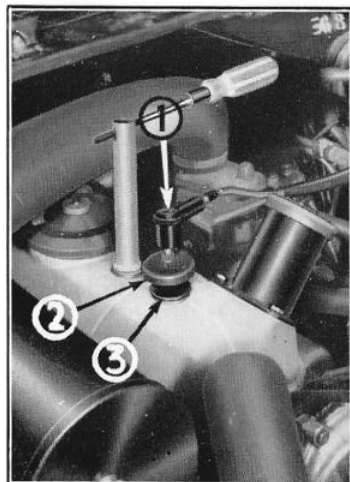

Figure 19
- Sparking plug lead **1** (fig. 19),
Unscrew the plug using a screwdriver as a lever (fig. 19). The copper asbestos gasket should remain on the thread of the plug.